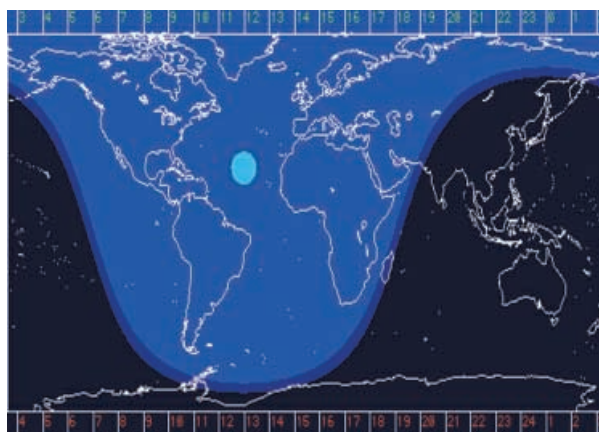

Fig.1. Real-time world clock as displayed by [www.world-clock.org](http://www.world-clock.org).
*World clock* produced an astonishing number of web sites, but none that showed the display looked for. However, one of the sites revealed the screen dump shown in Fig.1. This set the author along a completely different thinking path.
It eventually turned out to be fairly simple. The saved screen dump shown in Fig.1 was first converted to a black and white image, and then inverted to show black detail on a white background (Fig.2).